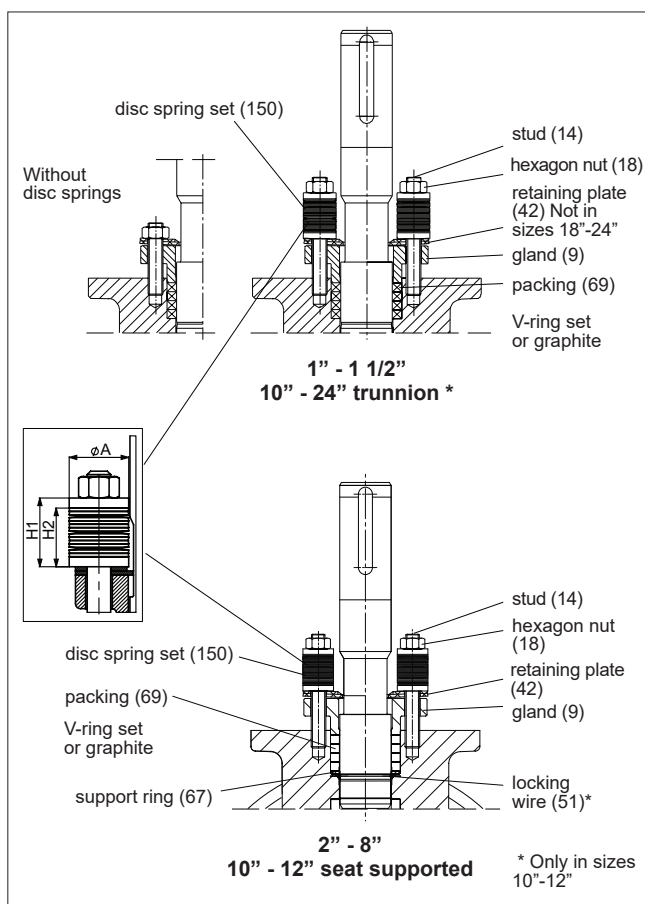

Fig. 14 Packing
- Place the new packing rings (69) over the shaft (5). The gland follower may be used for pushing the rings into the counterbore. Do not damage packing rings in the shaft keyway. See Fig. 14 for proper orientation.